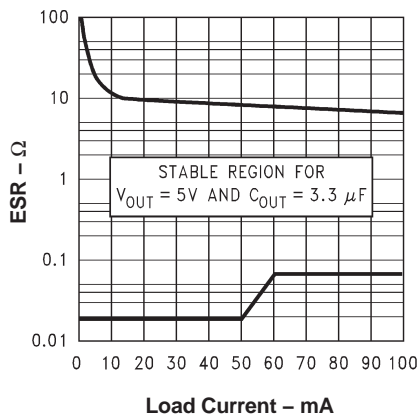
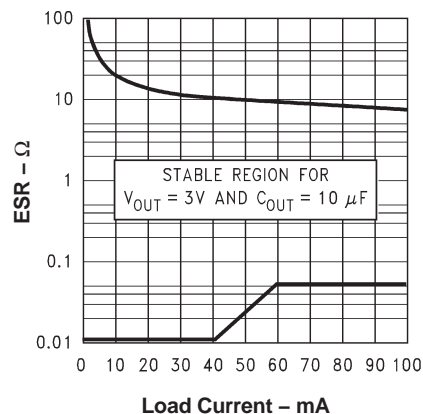

Figure 2. 5-V/3.3- μF ESR Curves
Figure 5. 3-V/10- μF ESR Curves
As a PNP regulator, the LP2981 requires the output capacitor to meet both a minimum capacitance and ESR value. Required ESR values as a function of load current are provided for various output voltages, load currents, and capacitances (see Figure 2 through Figure 5).
- ESR range: see Figure 2 through Figure 5